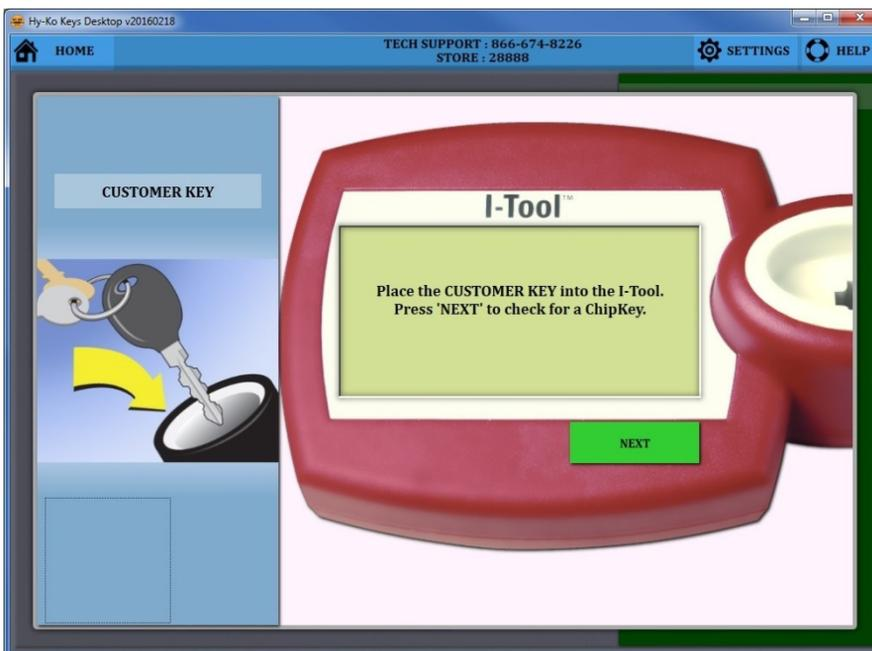

fig. 112
- The 'I-TOOL' app allows you to do only the ChipKey reading and programming portion of the sequence (see fig. 112).